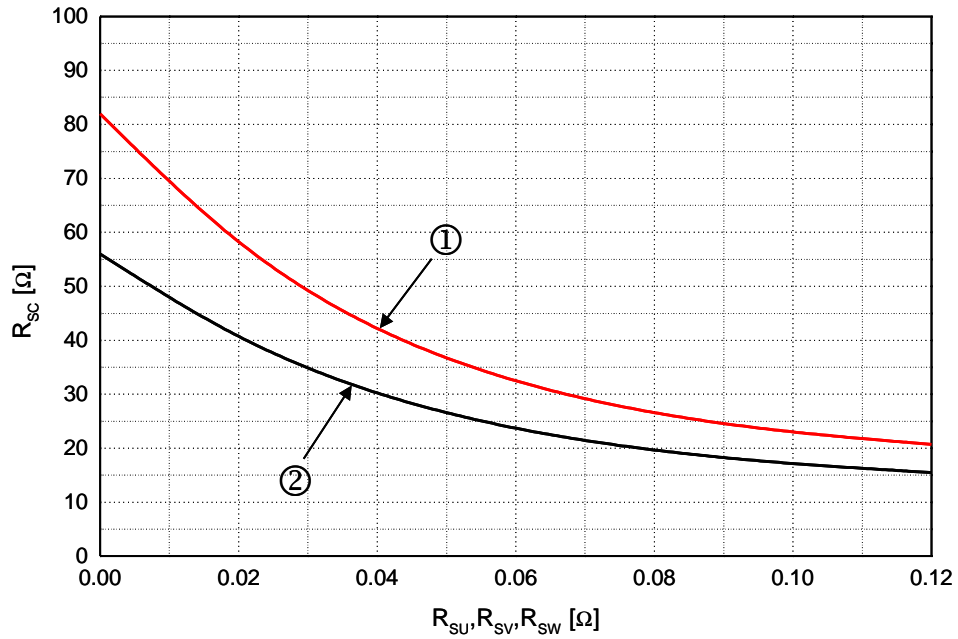

Fig. 8. R_{SC} Variation by change of Shunt Resistors (R_{SU}, R_{SV}, R_{SW}) for Short-Circuit Protection
- Short-circuit current protection is functioning only at the low-sides. It would be recommended that the value of the external sensing resistor (R_{SC}) should be selected around 56 Ω in order to make the SC trip-level of about 22A at the shunt resistors (R_{SU}, R_{SV}, R_{SW}) of 0Ω. For the detailed information about the relationship between the external sensing resistor (R_{SC}) and the shunt resistors (R_{SU}, R_{SV}, R_{SW}), please see Fig. 8.
9. For the use of shunt resistors (R_{SU} , R_{SV} , R_{SW}), please see Fig. 8 in order to select the proper R_{SC} .